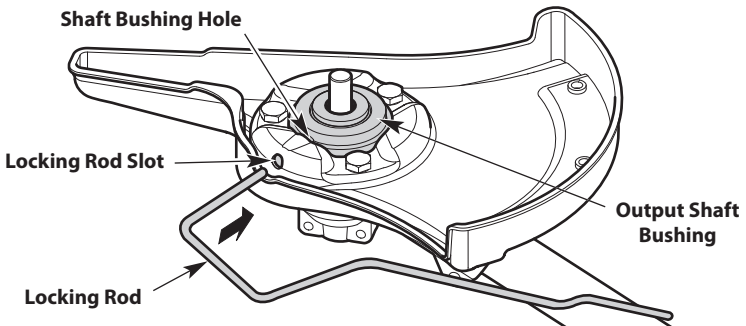
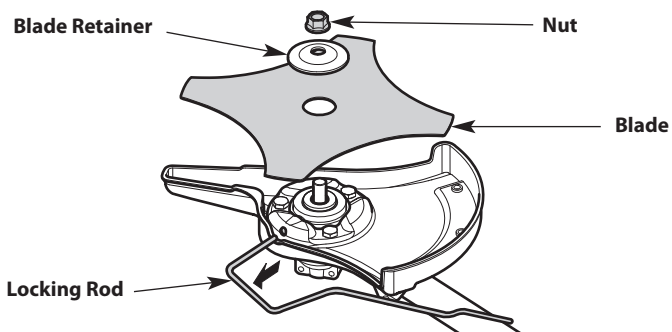

Fig. 14
Fig. 16
1. Rotate the blade (Fig. 16) until the shaft bushing hole aligns with the locking rod slot (Fig. 14).
2. Insert the locking rod through the locking rod slot and into the shaft bushing hole (Fig. 14).
5. Remove the locking rod (Fig. 16).
6. Remove the blade retainer and blade (Fig. 16).
1. Rotate the output shaft bushing until the shaft bushing hole aligns with the locking rod slot (Fig. 14).